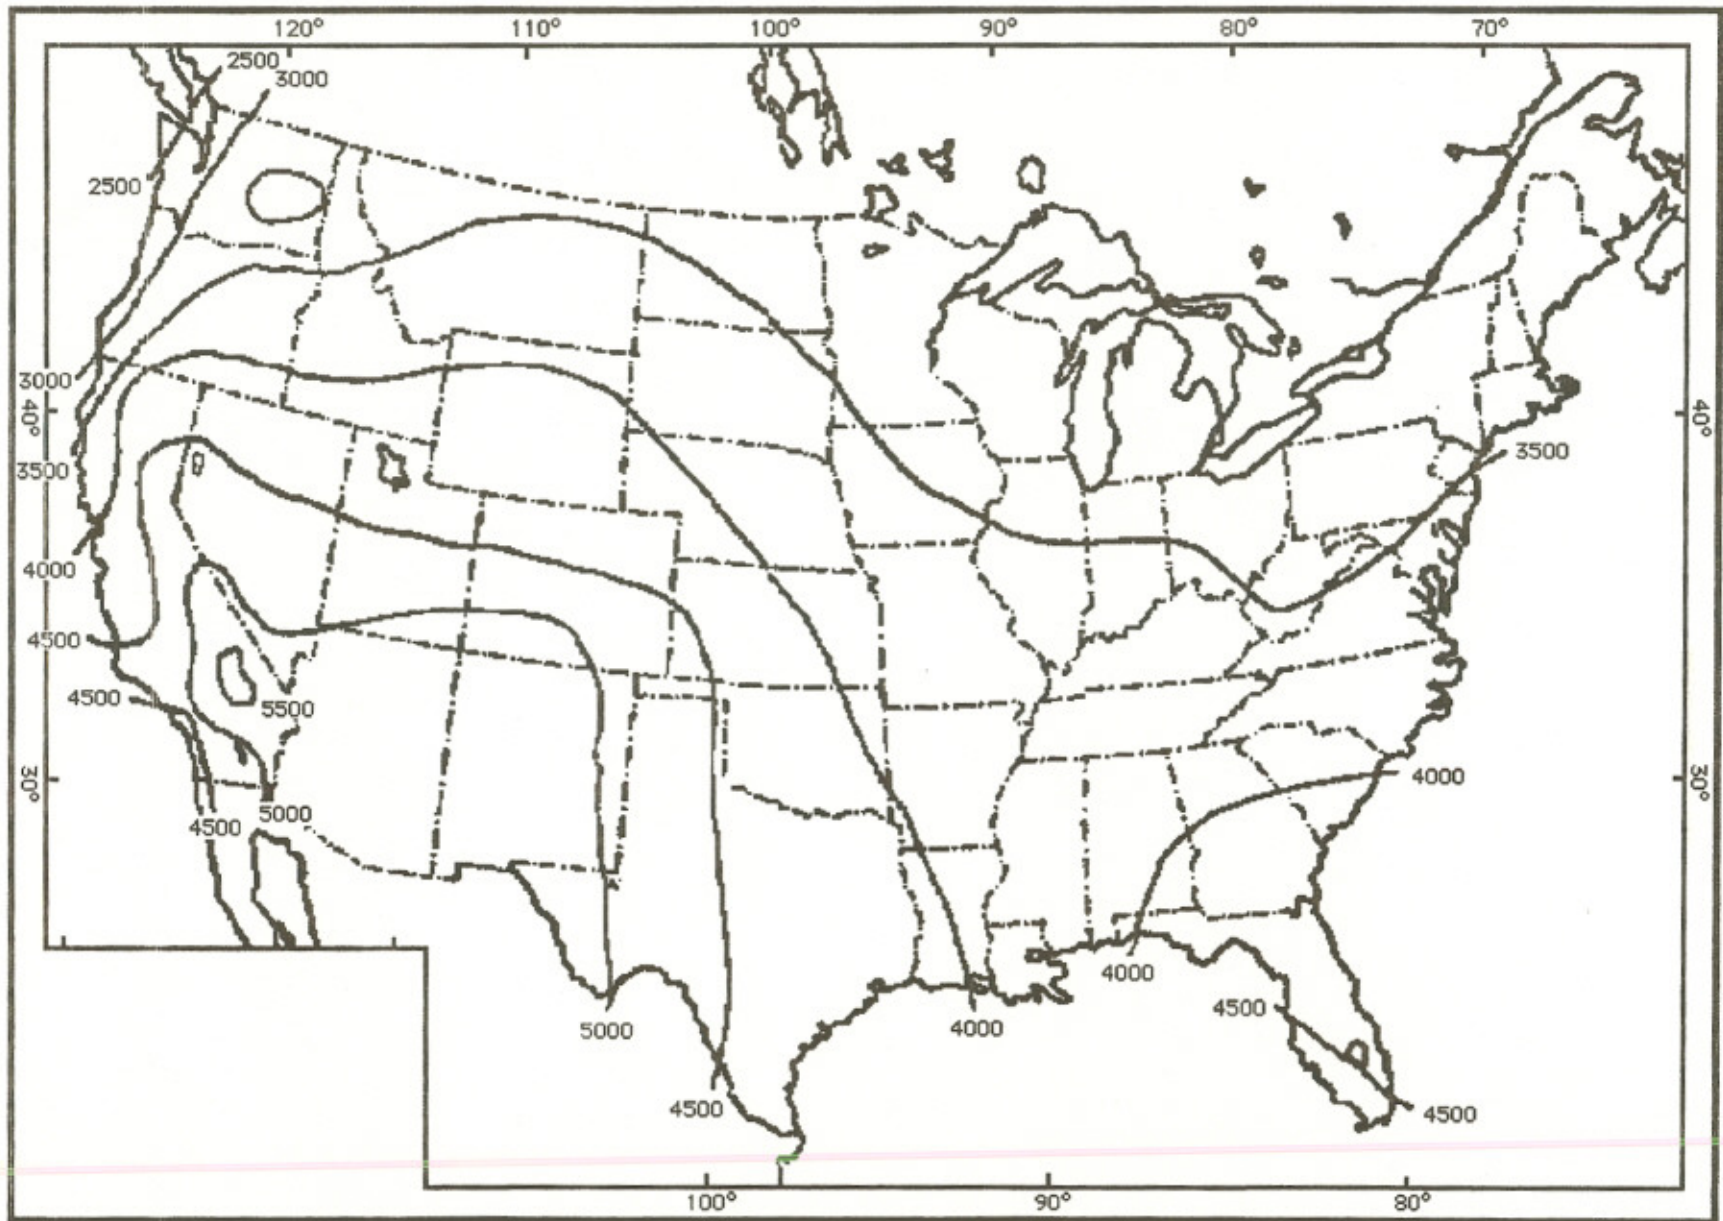

Figure 5. Map of the annual daily average sun's energy received over the United States, in kilocalories per meter squared (Visser 1954).
2. Figure 5, on the next page, is a map of the sun's energy received over the United States. Check back to remind yourself that the location of your pond is in Pennsylvania and type the appropriate kilocalories of sunlight into the sun's dialog box (Figure 6).
(15) Sunlight
1. Put the pond in your part of the country. Type in the appropriate sunlight from Figure 5. Would you have more or less biomass in a pond near you than in the Pennsylvania example? Why?